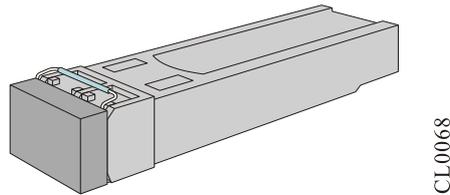
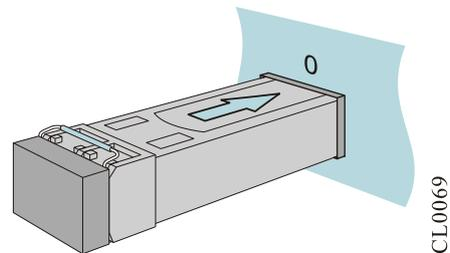

FIGURE 4-9 SFP MODULE
FIGURE 4-10 INSTALL SFP MODULE
- Step 3: Get the SFP module out from the packing box. The diagram of the SFP module is as shown in Figure 4-9 Use the hands to hold the two sides of the SFP module and push it into the interface slot of the wired and wireless integrated controller horizontally until the SFP module is close-contact with the slot (you can feel that the shrapnel at the top and bottom of the SFP module stuck the interface slot), as shown in Figure 4-10.